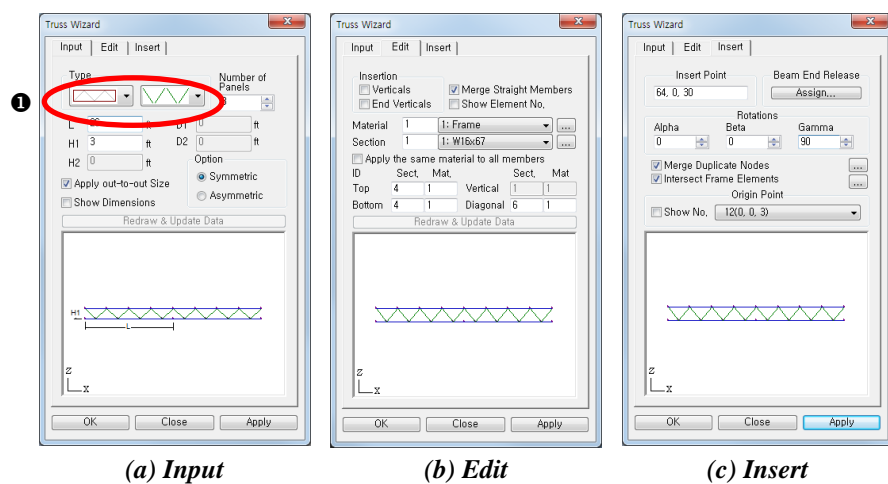

Figure 2.12 Truss Wizard
3. Select the truss shape (Fig.2.12(a)–①) in the *Type* selection field of the *Input* tab.